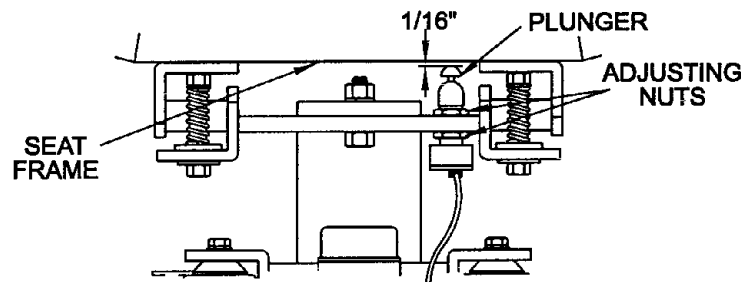

FIG. 11
- a) With operator out of seat, adjust the seat switch to provide a $1/16$ " clearance between the switch plunger and the seat frame (See Figure 11).